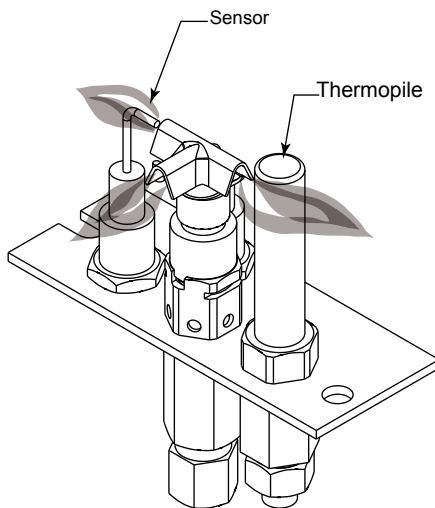

Figure 53 -
1. Check pilot flame. Flame should touch approximately 3/8" of the top of thermopile and touch top of thermocouple. *Figure 53*. If not, contact dealer for service.